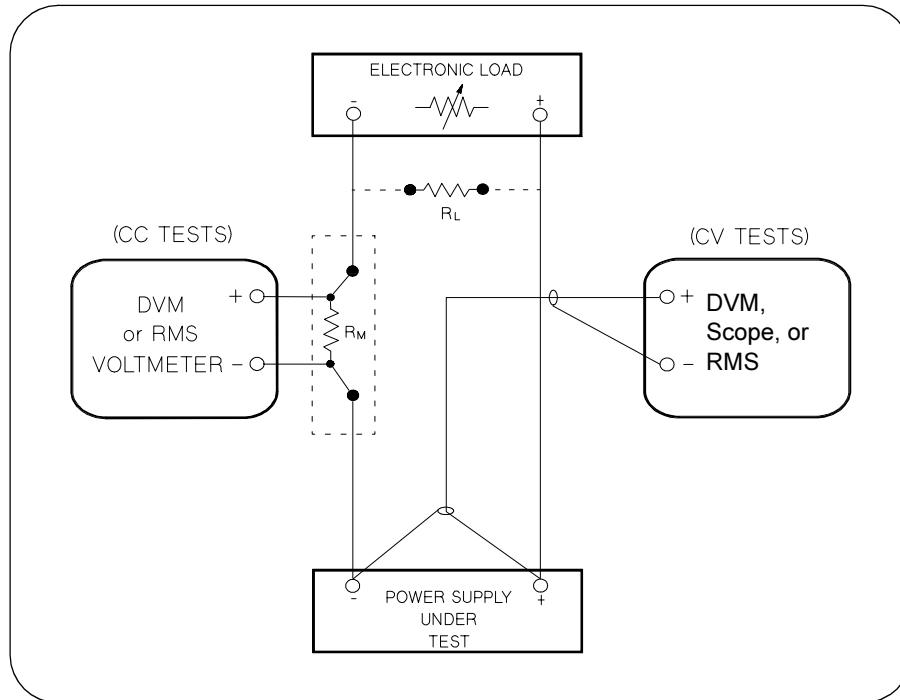

Figure A-1 Performance Verification Test Setup
Most tests are performed at the front terminals as shown in Figure A-1. Measure the dc voltage directly at the (+) and (-) terminals on the front panel.
To eliminate output current measurement error caused by the voltage drops in the leads and connections, connect the current monitoring resistor between the (-) output terminal and the load as a four-terminal device. Connect the current-monitoring leads inside the load-lead connections directly at the monitoring points on the resistor element (see R_M in Figure A-1).
- 1 Turn off the power supply and connect a digital voltmeter between the (+) and (-) terminals of the output to be tested as shown in Figure A-1.
- 1 Turn off the power supply and connect a digital voltmeter between the (+) and (-) terminals of the output as shown in Figure A-1.
- 4 Operate the electronic load in open mode (input off). Record the output voltage reading on the digital voltmeter again. The difference between the digital voltmeter readings in steps (3) and (4) is the CV load regulation. The difference of the readings should be within the limit of (5 mV)* or (9 mV)**.
- 6 Adjust the transformer to high line voltage (127 Vac for nominal 115 Vac, 110 Vac for nominal 100 Vac, or 253 Vac for nominal 230 Vac). Record the voltage reading on the digital voltmeter. The difference between the digital voltmeter readings in steps (5) and (6) is the CV line regulation. The difference of the readings should be within the limit of (5 mV)* or (9 mV)**.
- 1 Turn off the power supply and connect the output to be tested as shown in Figure A-1 to an oscilloscope (ac coupled) between (+) and (-) terminals. Set the oscilloscope to AC mode and bandwidth limit to 20 MHz. Connect a resistive load (13.5Ω)[‡] to the terminal at (B) as shown above.
- 1 Turn off the power supply and connect the output to be tested as shown in Figure A-1 with an oscilloscope. Operate the electronic load in constant current mode.